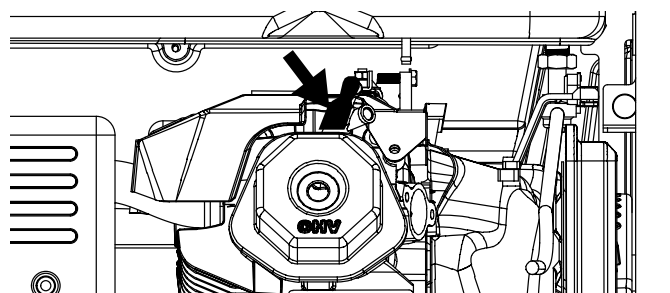

Figure 20 - Remove Spark Plug Boot
3. Remove the spark plug boot by firmly pulling the plastic spark plug boot handle directly away from the engine (see Figure 20).